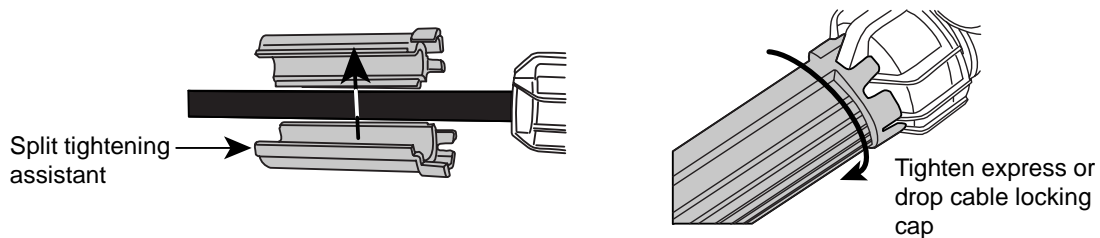

Figure 13
1. Fit two halves of the split tightening assistant around the cable and lock halves together (Figure 13).
- **Express Port Cables** – Evenly tighten both express locking caps with alternating 2/3 turns for each side until both locking caps are tight against the endcap and center wedge grommet (Figure 4 and Figure 13 ).
- **Drop Port Cables** – Engage the tightening assistant onto the locking cap and fully tighten in a clockwise direction (Figure 13).